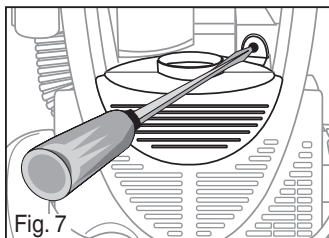

Fig. 7
- 2) Unscrew the lens cover and remove old bulb (Fig. 7).